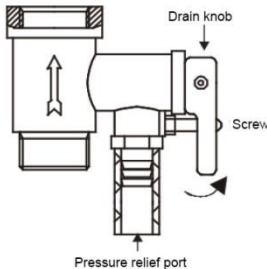

Fig 5
4. Screw the safety relief valve on the inlet nozzle, which is marked in blue and has a water flow direction arrow in such a way that the water flow coincides with the direction of the arrow on the valve body. Put the water drainage tube* (water may appear during heating) on the pressure relief port of the safety relief valve to allow water drainage into the sewer (see Fig. 5) (the tube must be directed downwards and must not be bent).
- unscrew the screw of the reverse safety valve and move the handle to the horizontal position, water should flow from the opening of the safety valve (see Figure 5).